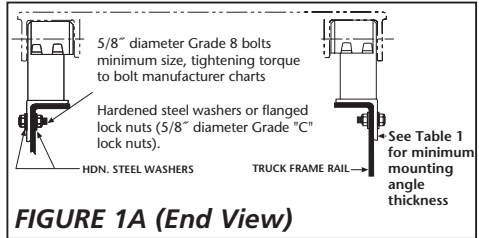

FIGURE 1A (End View)
Bracket with Mounting Angle (see Figure 1A, 1B, and 1C):
Bracket for Angle Mounting (see Figure 1A, 1B, and 1C):
3. In addition to the information given in "Installation: General Recommendations," follow the recommendations given in **FIGURES 1A, 1B, and 1C**. The following sequence is suggested for both fabricated and cast brackets:
- B. Bolt the angles to the tractor as shown in **FIGURES 1A and 1B**.
- D. For fabricated brackets (a welded assembly), weld the bracket to the mounting angle with 1/4" fillet welds on both sides, and 1/2" groove welds on both ends, as shown in **FIGURES 1A and 1B**. The welds should be continuous around the bracket and joined at the corners.